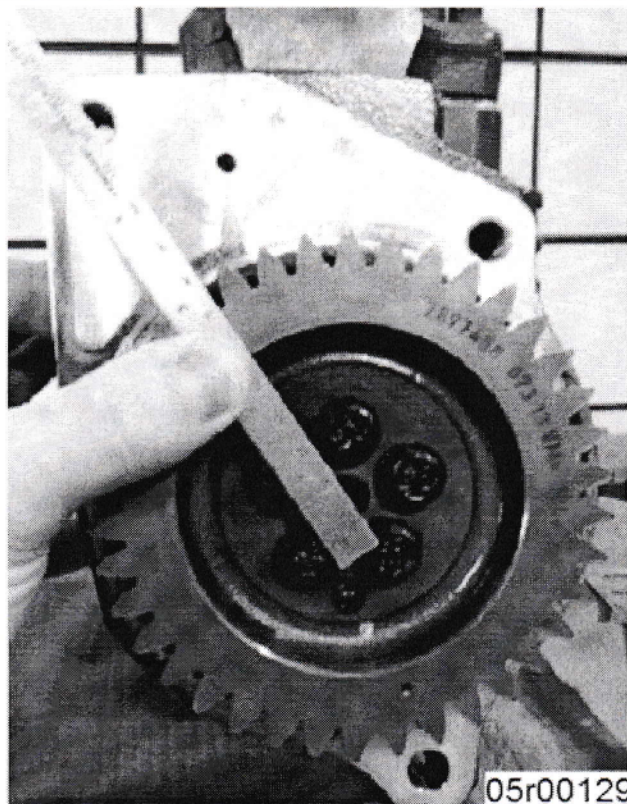

Figure 3, Fuel Pump Camshaft Center Line and Mounting Hole Center Line Alignment.
- Align a straight edge or ruler between center-line of fuel pump camshaft and center of upper left fuel pump mounting hole. See Figure 3 below.